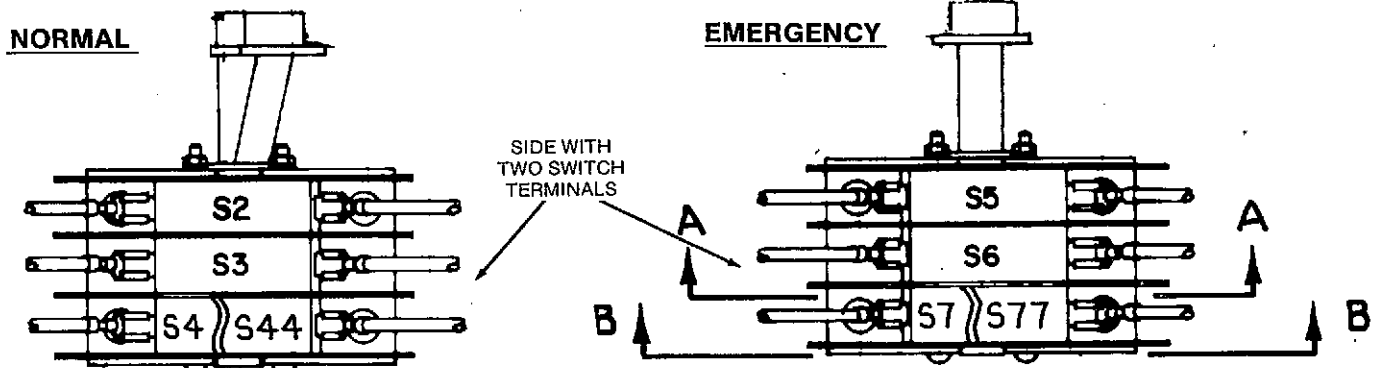

FIGURE 36. AUXILIARY SWITCHES
5. Remove the control wiring leads from the auxiliary switch terminals (see Figure 36).
8. Remove the round head machine screws, flat washers, and nuts that secure the auxiliary switches to the bracket (see Figure 36); and lift out the three auxiliary switches, insulating barriers, and switch lever.
1. Place the auxiliary switch lever in the bracket as shown in Figure 36.
2. Install the flat washers (4), insulating barriers (4), and auxiliary switches (3) in the bracket; and secure with round head machine screws (2) and nuts (2). Note that each switch must be assembled so the side with two terminals faces inward (see Figure 36) when the auxiliary switch assembly is installed.
4. Install control wiring leads on the corresponding switch terminals. Leads are marked with the terminals numbers (S2/N0, S5/NC, S7/C, etc.) for identification. Refer to Figure 36 for identification of auxiliary switch terminals.
5. Place the plug bracket in position on the base and secure with round head machine screws (4). Tighten to 25 to 30 in-lbs (2.8 to 3.4 N•m) torque.
6. Place red plastic switch cover in position and secure with machine screws (4) and flat washers (4). Tighten to 25 to 30 in-lbs (2.8 to 3.4 N•m) torque.
5. Replace the capacitor end cap(s) and install the capacitor(s) in the brackets of the plug bracket (Figure 36).